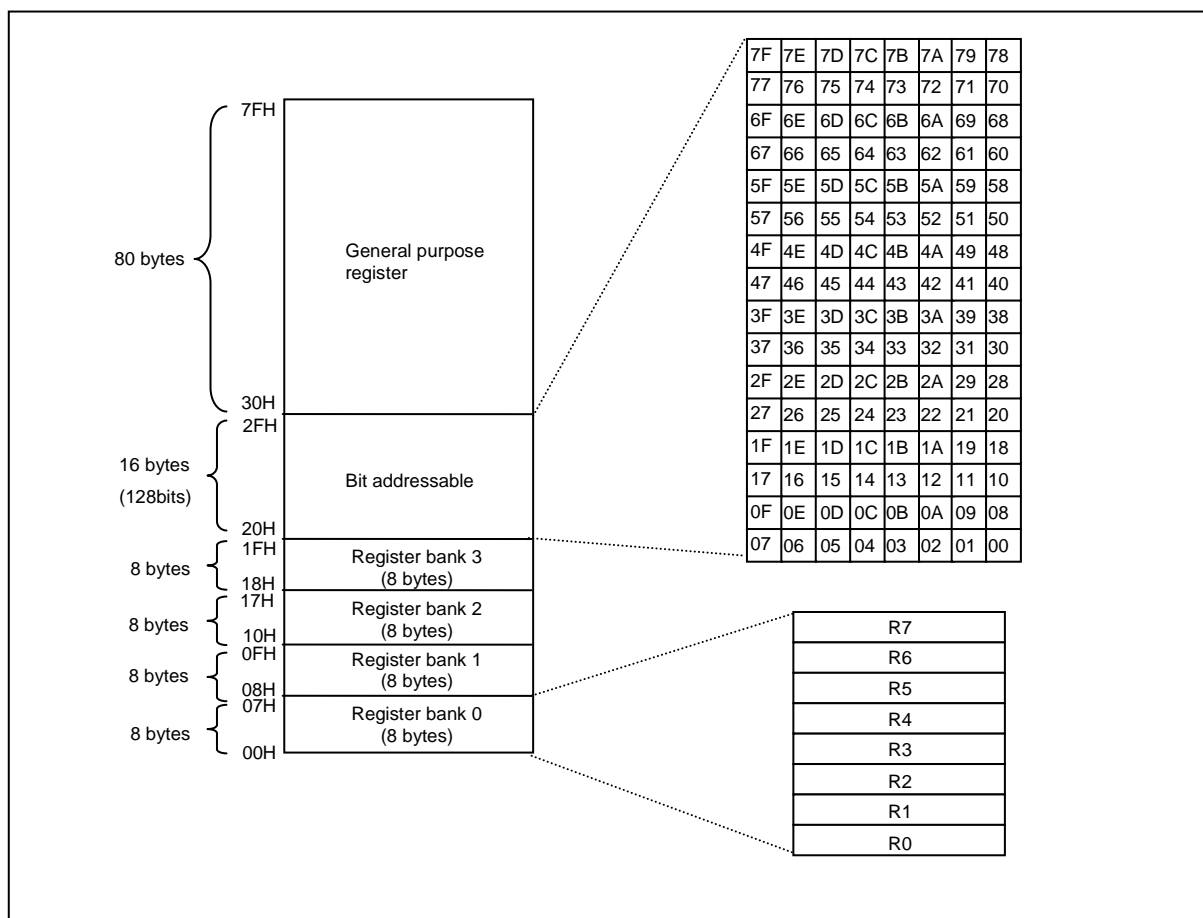

Figure 8-3 Lower 128 Byte of IRAM
The 128 bytes of RAM which can be accessed by both direct and indirect addressing can be divided into 3 segments as listed below and shown in Figure 8.3.
**RS0, RS1** The bits RS0 and RS1 are used to select one of the four register banks shown in Figure 8.3. A number of instructions refer to these RAM locations as R0 through R7. The selection of which of the four banks is being referred to is made on the basis of the bits RS0 and RS1 at execution time.